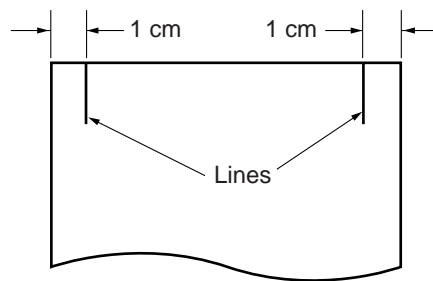

Figure 10-211
- 1) Draw lines 10 mm from each edge of a piece of copy paper (A3), as shown in Figure 10-211.